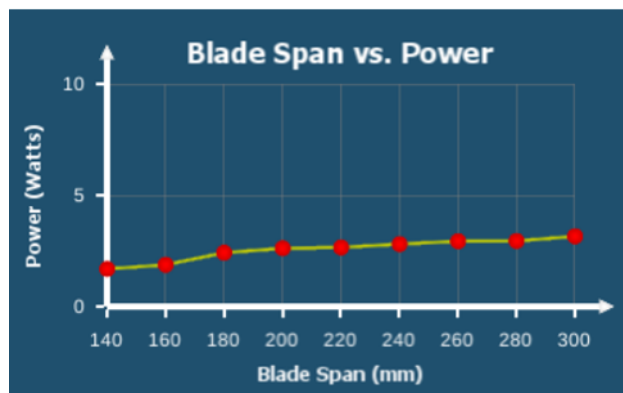

Figure 12: Blade span experiment graph
4. Repeat steps 2-3 until you have tested all the blade spans listed. You should have a graph something like the one in Figure 12.